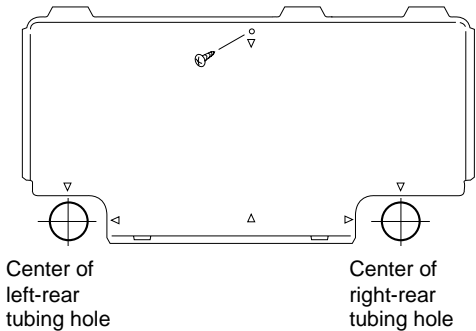

**Fig. 11a**
- (1) Attach the rear panel to the wall with the 6 screws provided. (Fig. 11a)